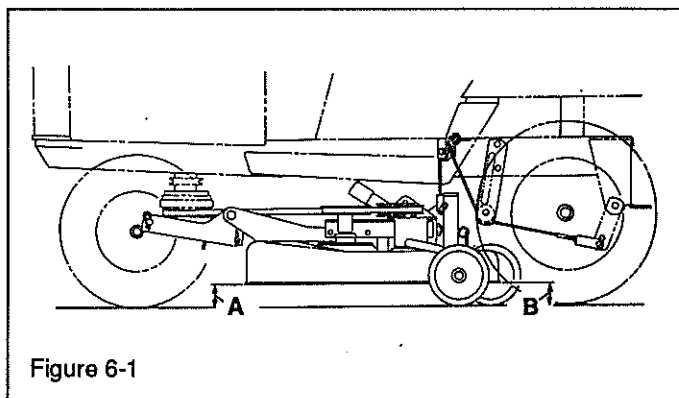
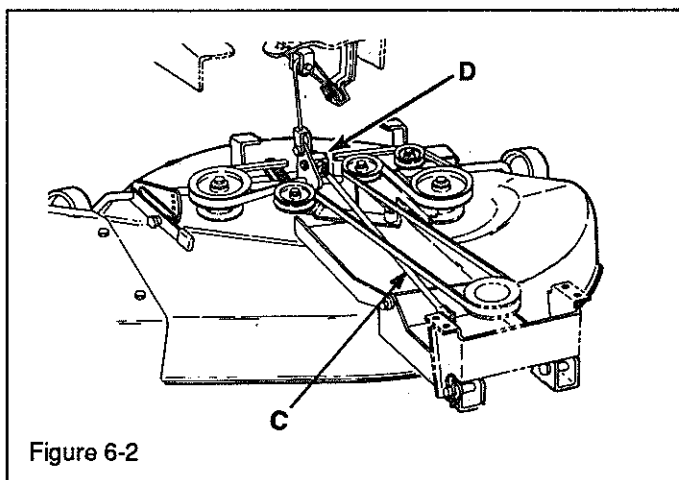

Figure 6-1
Figure 6-2
- Measure the distance from the front edge of the blades to the ground (A, Figure 6-1) and from the rear edge of the blades to the ground (B, Figure 6-1). Both measurements should be equal. If not, adjust length of rod (C, Figure 6-2) at pivot (D).